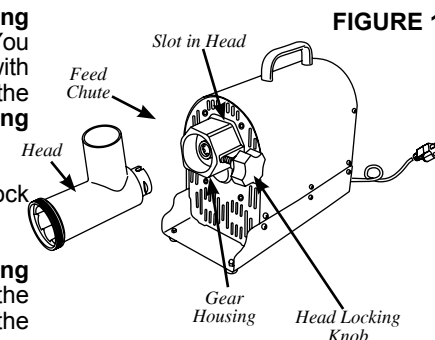

FIGURE 1
1. Insert the **Head** into the **Gear Housing** with the **Feed Chute** facing straight up. You will need to line up the slot in the **Head** with the **Pin** inside the **Gear Housing**. Be sure the **Head** is seated fully into the **Gear Housing** (Figure 1).